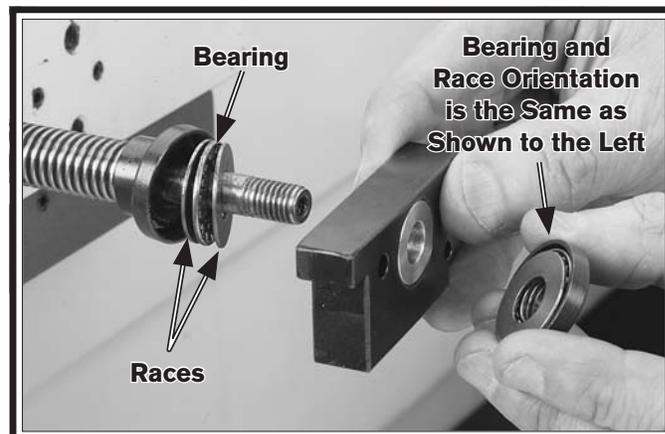

Figure 10. Slide block end-cap installation, (bearings shown without grease for clarity).
13. Install the bearings and races onto the leadscrew in the order shown in **Figure 10**.